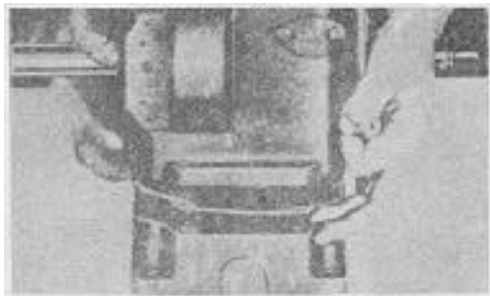

Figure 26
- Assemble oil base to block with four screws. Figure 26.